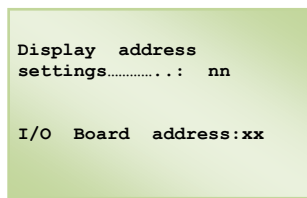

Fig. 11
It is possible to configure the address of the terminal only after having connected it to the power supply by using the RJ11 telephone connector. To enter in configuration mode press the **UP**, **ENTER** and **DOWN** keys at the same time for at least 5 seconds (these keys are present on all versions); the mask shown in Fig. 11 will be displayed with a flashing cursor in the left hand top corner:
- press the **ENTER** key until the cursor is positioned in the XX field (I/O board address) Fig. 11;